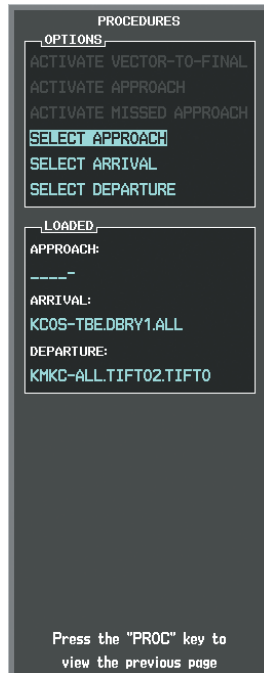

Figure 5-125 Procedures Window
b) 'SELECT APPROACH' should be highlighted as shown in Figure 5-125.